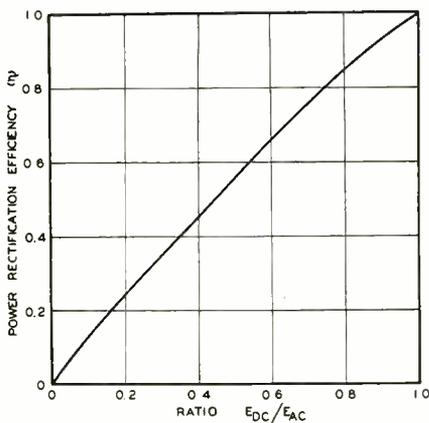

Fig. 6—Curve showing the relation between power rectification efficiency and the ratio of d-c voltage to a-c voltage is nearly linear
In the circuit diagram of the complete modulation monitor, shown in Fig. 6, the meter used has an 0-1 ma range; that is, an 0-1000 μ a range. With the monitor set up for regular operation and connected to the final i-f stage of a type HRO communication receiver, the signal strength from a modulated oscillator was varied from R3 to R12, by steps, and the following readings taken:
The procedure is as follows: First; when a signal of average strength, (R8), arrives at the grid of the first i-f amplifier, V_1 in Fig. 6, it is amplified in the conventional manner and passed on through V_2 to V_3 , where it meets with full-wave rectification. Full-wave rectification is chosen for obvious reasons.
soidal alternating voltage E_{AD} . This follows from the fact that the condenser C is assumed as having zero reactance. At radio frequencies the reactance of a 0.01 to 0.05 μf condenser will have but a small fraction of the magnitude of the rectifier tube plate resistance. Consequently the diode plate current i_p flows in pulses during the fraction of the positive half cycle during which the applied alternating voltage E_{AC} exceeds the equivalent biasing voltage E_{DC} . These relations are depicted graphically in the usual manner in Fig. 6.
Considering first the determination of the rectification efficiency by the direct measurement of E_{Dc} and E_{Ac} , considerable simplification results if we plot η from equation (15) not as a function of the fractional period of flow β , but instead directly as a function of the ratio E_{Dc}/E_{Ac} . This can be accomplished by means of (11) and the graph of η in Fig. 5. The resulting curve relating the efficiency η as a function of the ratio E_{Dc}/E_{Ac} is plotted in Fig. 6, and shows the interesting fact that the power rectification efficiency approximates a linear function of the fractional period of flow of the space current pulse.